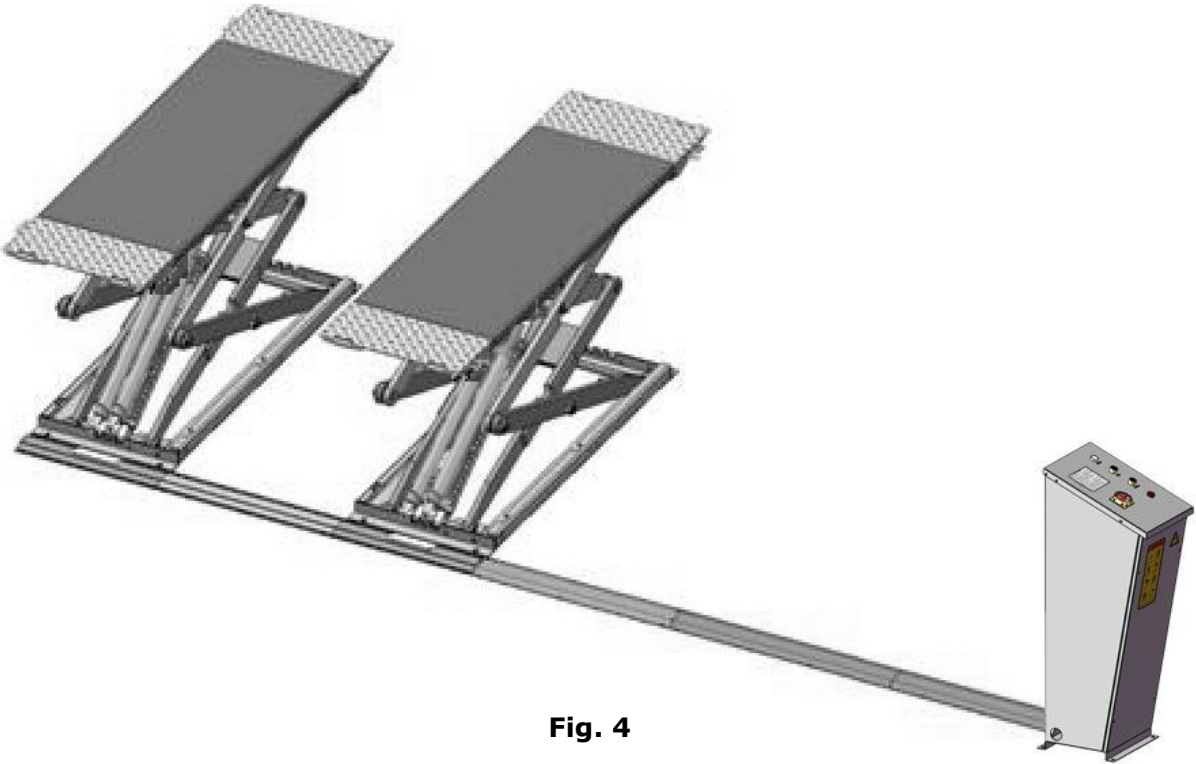

Fig. 4
A. Control cabinet placement diagram 1. see Fig.4